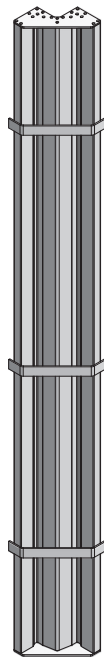
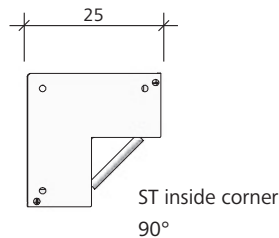

Fig. 35.1
Fig. 35.3
With StarTec XT, a 90° corner can be produced for all wall thicknesses (WT). To do this, three outer-corner sizes (Figures 35.1 and 35.2) and one inner-corner size (Figures 35.3 and 35.4) are available for use in conjunction with standard StarTec XT panels.